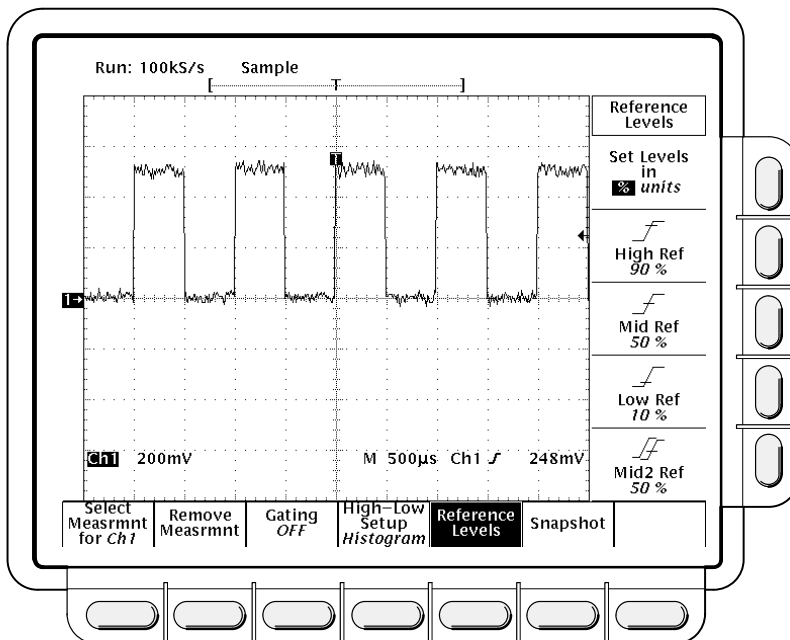

Figure 3-48: Measure Menu — Reference Levels
1. Press **MEASURE** → **Reference Levels** (main) → **Set Levels** (side) to choose whether the References are set in % relative to High (100%) and Low (0%) or set explicitly in the units of the selected waveform (typically volts). See Figure 3-48. Use the general purpose knob or keypad to enter the values.